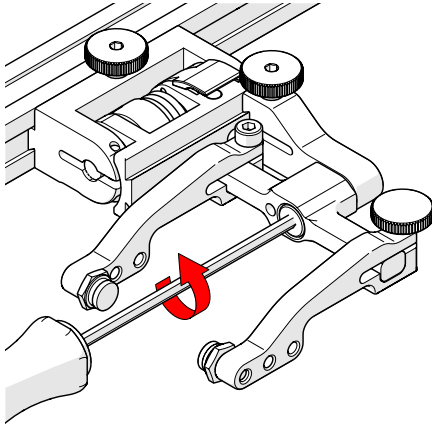

Fig. 212 - Unscrew yoke pivot screw
1. Unscrew the yoke from the swing arm (Fig. 212).